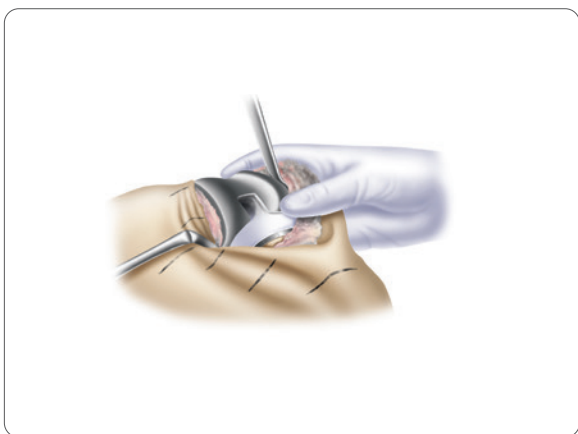

Figure 67
2. Placing your thumb on the anterior of the insert to hold it on the baseplate (**Figure 67**), move the knee into extension.